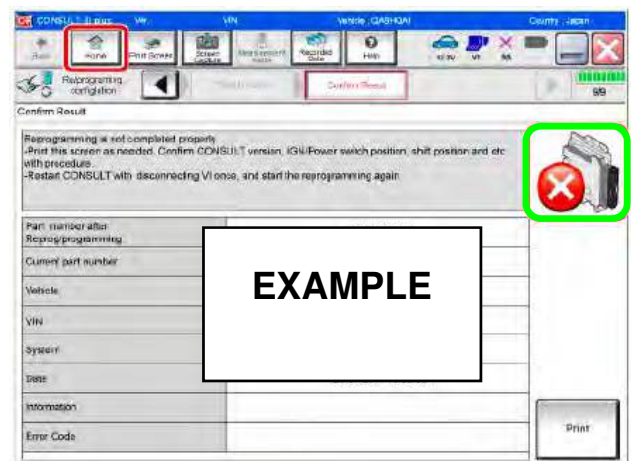

Figure 23
**If reprogramming does not complete and the “X” icon displays, as shown in Figure 23:**